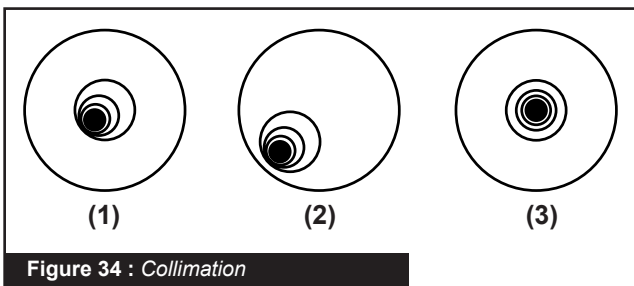

Figure 34 : Collimation
- b. While looking at the defocused star image, notice which direction the darker shadow is offset in the ring of light or notice which part of the ring is the thinnest (**Fig. 34, #1**). Place your index finger in front of the telescope so that it touches one of the collimation set screws. You will see the shadow of your finger in the ring of light. Move your finger around the edge of the black secondary mirror support until you see the shadow of the finger crossing the thinnest part of the ring of light. At this point, look at the front of the telescope where your finger is aiming. It will either be pointing directly at a set screw, or it will be between two set screws aiming at the set screw on the far side of the black secondary mirror support. This is the set screw that you will adjust.
- c. Using the AutoStar II’s Arrow keys at the slowest slew speed, move the defocused image to the edge of the eyepiece field of view (**Page 23, Fig. 34, #2**), in the same direction as the darker shadow is offset in the ring of light.
- e. When you bring the image to center (**Page 23, Fig. 34, #3**), carefully examine the evenness of the ring of light (concentricity). If you find that the dark center is still off in the same direction, continue to make the adjustment in the original turning direction. If it is now off in the opposite direction, you have turned